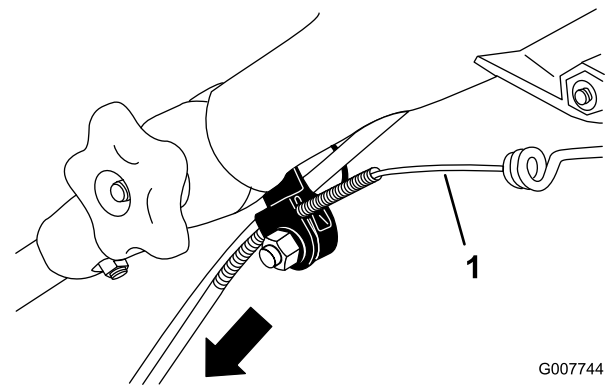

Figure 44
3. Pull the cable jacket downward until you remove the slack in the exposed cable (Figure 44).